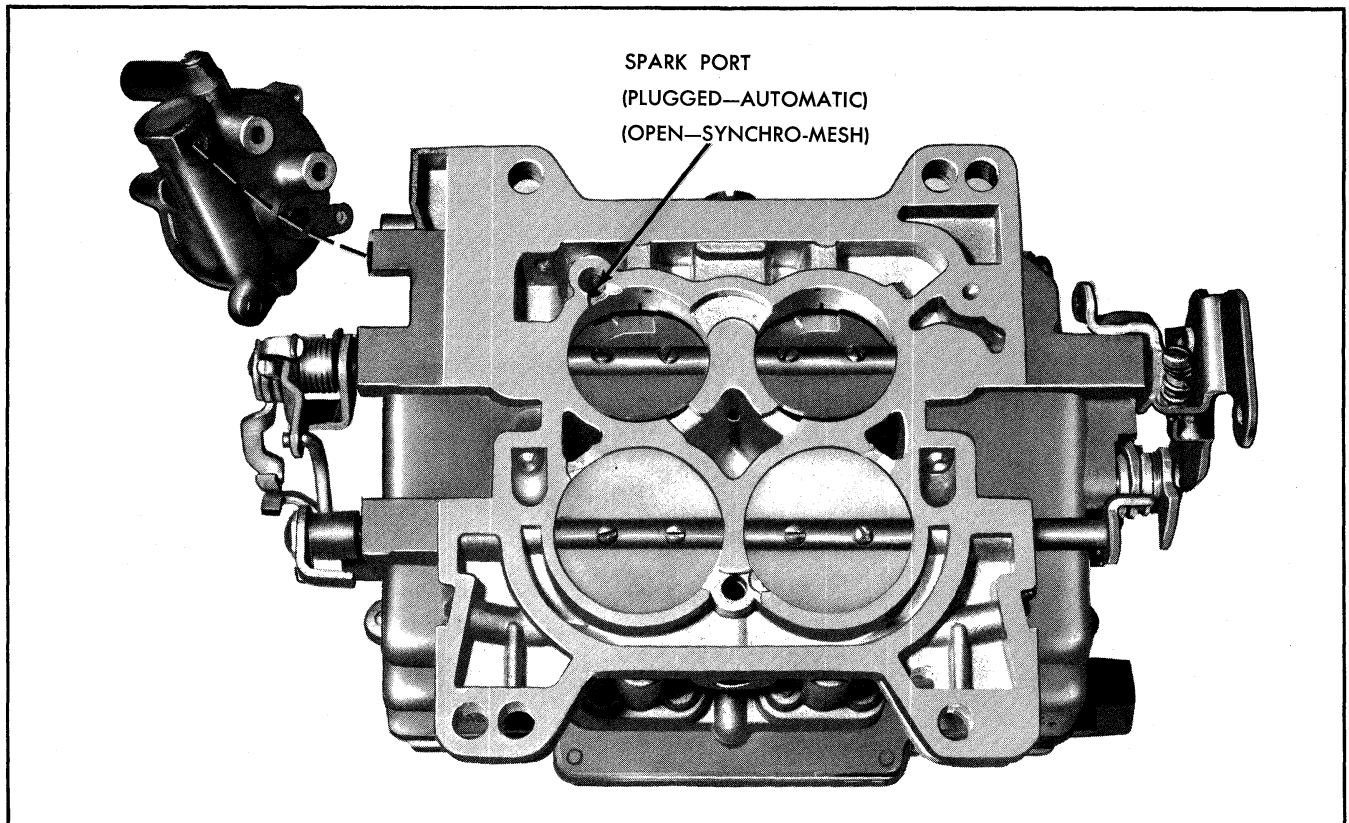

Fig. 6B-89 Passage Identification - Flange Area of Body
6. Install inner throttle shaft arm and flex spring on primary throttle shaft (Fig. 6B-88).
7. Install throttle shaft dog on primary throttle shaft (Fig. 6B-90).
8. Install outer throttle shaft arm, washer and retaining screw on primary throttle shaft (Fig. 6B-91).